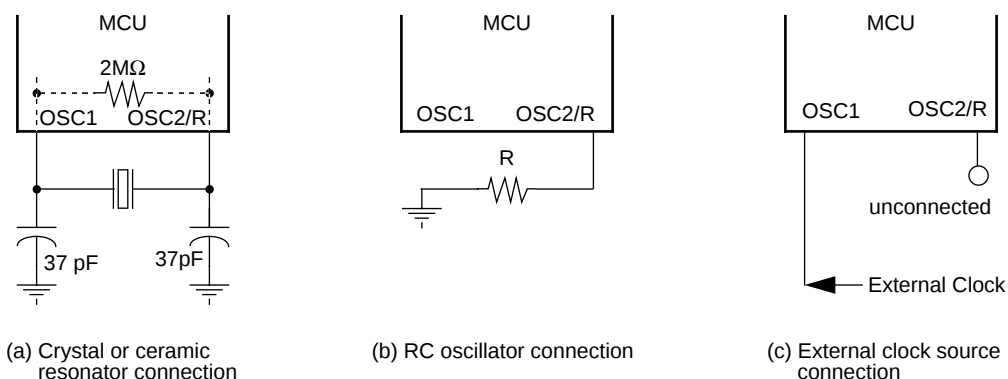

Figure 1-4. Oscillator Connections
1. A crystal as shown in **Figure 1-4(a)**
2. A ceramic resonator as shown in **Figure 1-4(a)**
3. An external resistor as shown in **Figure 1-4(b)**
4. An external clock signal as shown in **Figure 1-4(c)**
The circuit in **Figure 1-4(a)** shows a typical oscillator circuit for an AT-cut, parallel resonant crystal. The crystal manufacturer's recommendations should be followed, as the crystal parameters determine the external component values required to provide maximum stability and reliable start-up. The load capacitance values used in the oscillator circuit design should include all stray capacitances. The crystal and components should be mounted as close as possible to the pins for start-up stabilization and to minimize output distortion. An internal start-up resistor of approximately $2M\Omega$ is provided between OSC1 and OSC2/R for the crystal type oscillator as a mask option.
In cost-sensitive applications, a ceramic resonator can be used in place of the crystal. The circuit in **Figure 1-4(a)** can be used for a ceramic resonator. The resonator manufacturer's recommendations should be followed, as the resonator parameters determine the external component values required for maximum stability and reliable starting. The load capacitance values used in the oscillator circuit design should include all stray capacitances. The ceramic resonator and components should be mounted as close as possible to the pins for start-up stabilization and to minimize output distortion. An internal start-up resistor of approximately 2 M Ω is provided between OSC1 and OSC2/R for the ceramic resonator type oscillator as a mask option.
The lowest cost oscillator is the RC oscillator configuration. With this option an external resistor is connected between OSC2/R pin and the V_{SS} pin as shown in **Figure 1-4(b)**. The typical operating frequency f_{OSC} is set at 4 MHz with the external R tied to V_{SS}. The internal start-up resistor of approximately 2 M Ω is not connected between OSC1 and OSC2/R for the mask option of the RC type oscillator.
An external clock from another CMOS-compatible device can be connected to the OSC1 input, with the OSC2/R input not connected, as shown in **Figure 1-4(c)**. This configuration is possible only when the crystal/ceramic resonator mask option is selected.